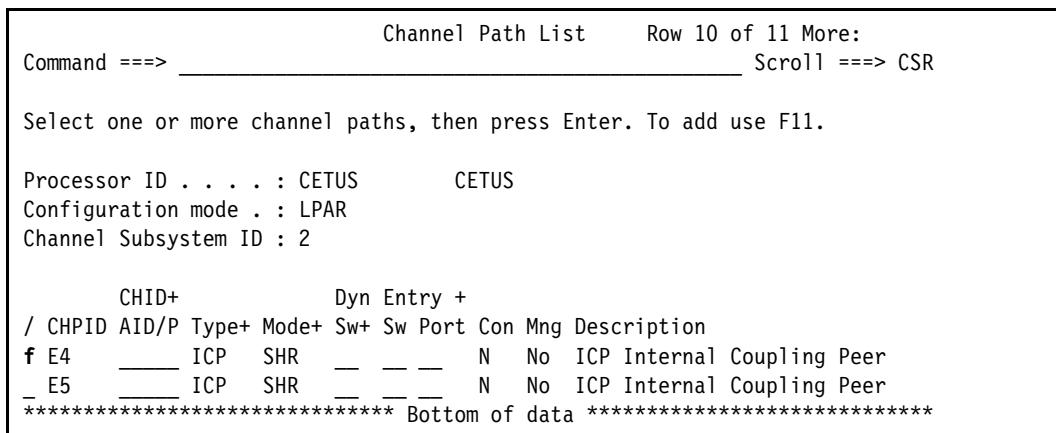

Figure 14-28 Processors: CF Channel Path Connectivity List, ICP
5. Enter f next to the CHPID definition (Figure 14-28), and press **Enter**.